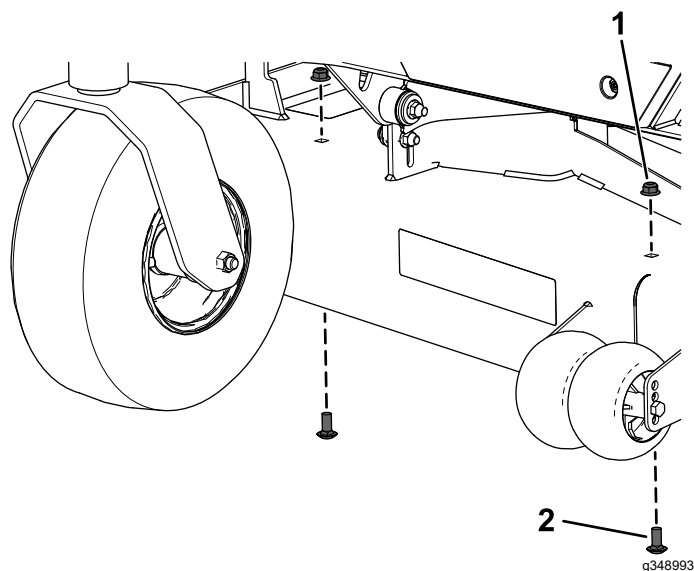

Figure 3
- Remove the 2 carriage bolts and 2 locknuts at the front of the mower deck (Figure 3).